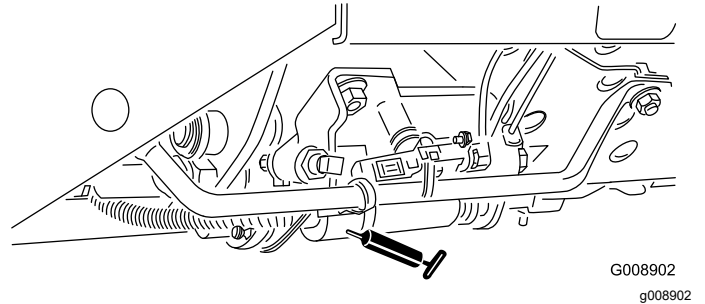

Figure 39
- Mow/transport slide (Figure 39)